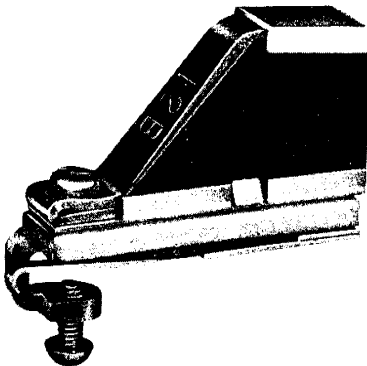

Fig. 20 — 12B Guard
6.13 The 12B guard, Fig. 20, is the same as 12A guard with addition of a locking screw for maximum security.